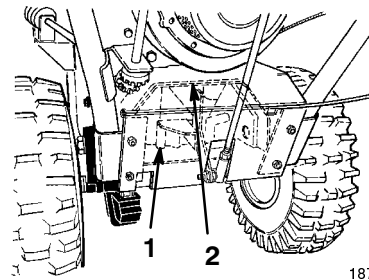

Figure 33
6. Loosen the four flange head cap screws (two on each side) that secure the transmission frame to the engine frame (Figs. 33 and 34).